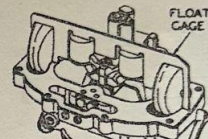

Figure 1
cure with screws (27). Install fulcrum lever (5), place boot (9) on pump piston (8), and connect piston to fulcrum lever. Install cotter pins (1). Install new check valve (26) with retainer (25). Make certain that retainer is in its groove in the air horn assembly. Insert power piston spring (19) and power piston (18) into air horn assembly, place gasket (24) on air horn, and install main well support assembly (17) with screws (16). Install power valve (23), spring (22), and plug (21) in the order named. Also, install both main metering jets (20). Attach venturi cluster (15) to air horn assembly (7) with screw (14). Make certain that the tongue on the venturi cluster is in the slot in the air horn. Install needle and seat assembly (12) and gasket (13). Place float (11) in position and install float pin (10). With the air horn assembly upside down, slip the float gage over the float assembly as shown in figure 1 and bend the float brackets until both floats touch the gage. Lower the air horn assembly onto main body being careful to insert the pump piston (8) into the pump cylinder without damaging the pump leather. Install screws (6) and tighten tube nut (46). Install choke rod (2) with cotter pins (1); and pump rod (4) with cotter pin (1) at the bottom and clip (3) at the top.